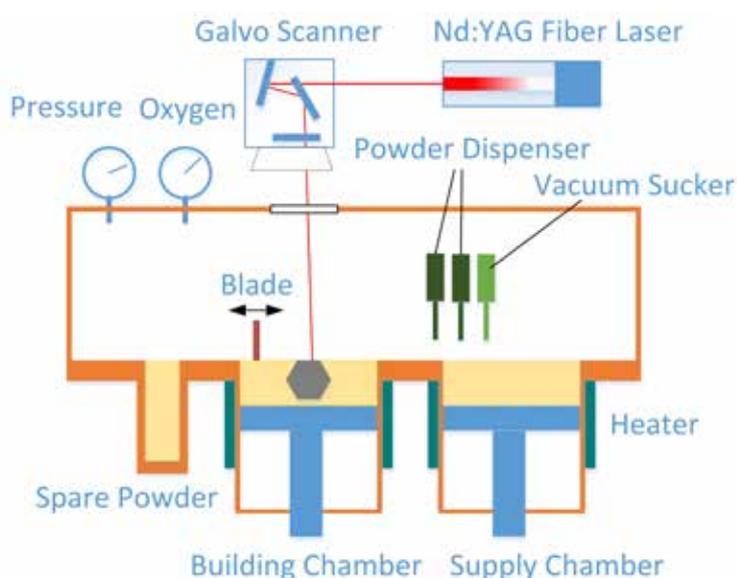

Figure 1: Schematic diagram of the multiple material SLM system [1].
A multiple material SLM system has been designed and manufactured (see Figure 1). A galvo scanner with F-theta lens was used to drive the focused laser beam (80 μm beam spot size) from a 500 W Ytterbium single-mode, continuous wave (CW) 1070 nm fibre laser to selectively melt the powder. A multiple powder delivery system was comprised of a traditional blade-assisted powder bed delivery mechanism, spreading the main building powder material (316L in this study), and a point-by-point micro-vacuum selective material removing system for